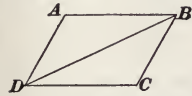

FIG. 32.
61. If in any parallelogram a straight line, called the **diagonal**, be drawn, connecting two opposite corners, it will divide the parallelogram into two equal triangles, as ADB and DBC in Fig. 32. The area of each triangle will equal one-half the area of the parallelogram, i. e., one-half the product of the base and the altitude. Hence, to find the area of any triangle: